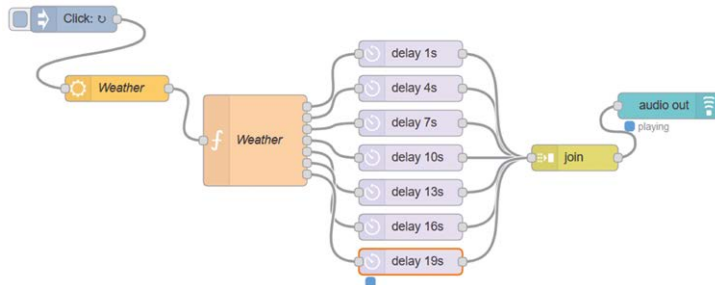

Figure 8.28 Flow program of the project
Node-RED flow program: Figure 8.28 shows the flow program which consists of 12 nodes: an **inject** node to start and repeat the weather forecast, an **openweathermap** node to get the local weather forecast, a **function** node that extracts the various local weather parameters and sends them to delay nodes, 7 **delay** nodes that insert delays between the messages, a **join** node that joins the messages, and a Dashboard **audio out**
- Join all the nodes as shown in Figure 8.28 and click **Deploy**.